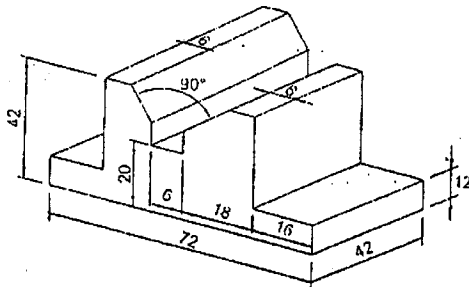

Fig. 1
3. Fig. 1 shows a V-block. Draw 28